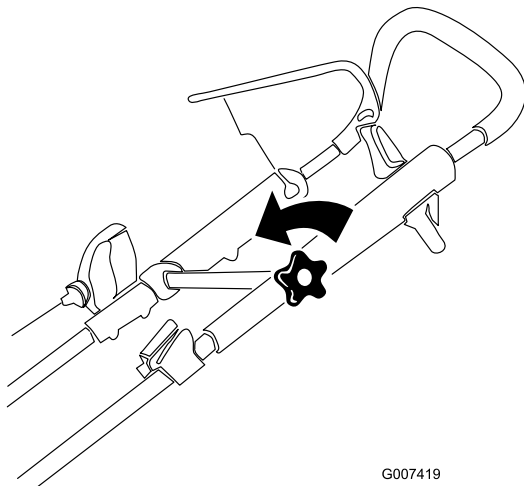

Figure 17
1. Loosen the upper handle knob (Figure 17).